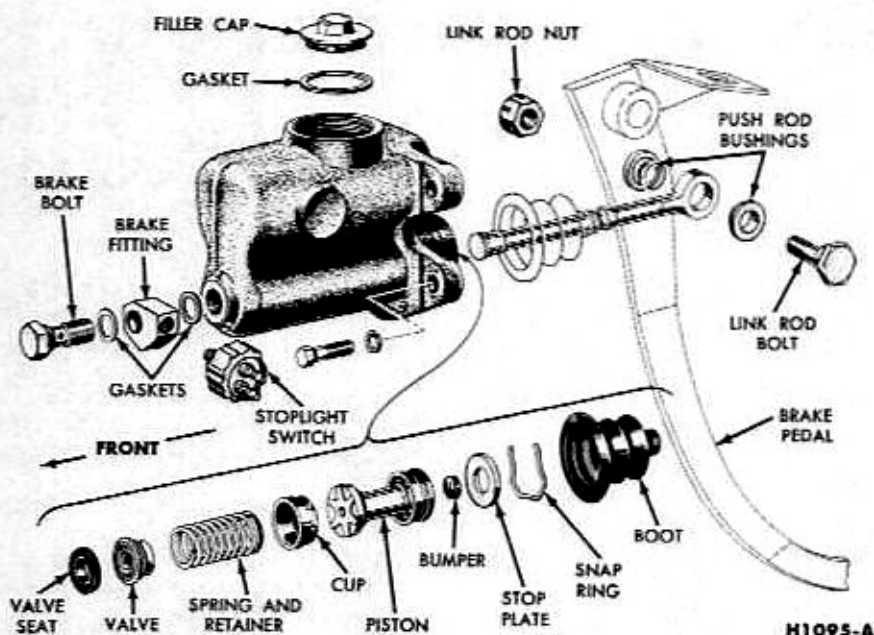

FIG. 8—Disassembled Brake Master Cylinder
2. Remove the rubber boot and snap ring from the bore at the rear end of the cylinder (Fig. 8). Remove the stop plate, piston, cup, spring, valve, and seat from the cylinder
2. Install the valve seat, valve, spring, cup, piston, and stop plate in the cylinder bore (Fig. 8). Install the snap ring in the rear end of the bore and install the boot.